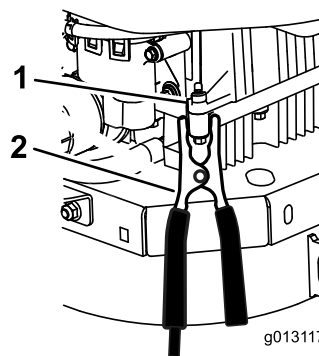

Figure 60
6. **Make the final connection on the engine block of the stalled vehicle (NOT to the negative battery post) away from the battery and stand back (Figure 60).**